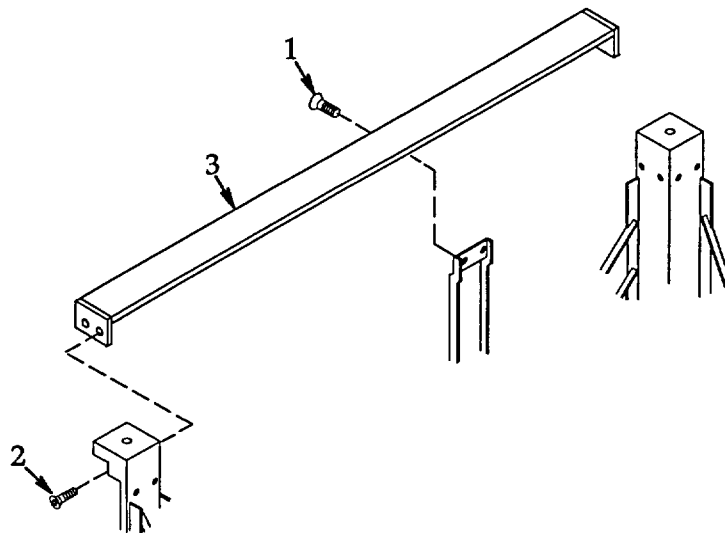

Figure 4-53. Rear Rail.
a. **Removal.** See figure 4-53.**WARNING**
b. **Installation.** See figure 4-53.
- (1) Remove two screws (1).
- (2) Install rear rail (3) and align mounting holes. Secure with four screws (2).
- (3) Install rear screen per paragraph 4.22.
- (4) Install access panel per paragraph 4.21.
- (5) Connect FDECU to power source and operate per paragraph 2.4.